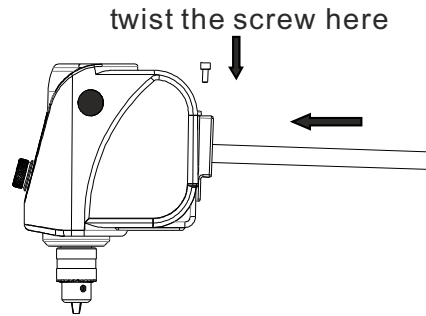

Figure 4
4. Put the bar to the main instrument, twist a screw from up side to fix the bar and the main instrument (refer to figure 4).